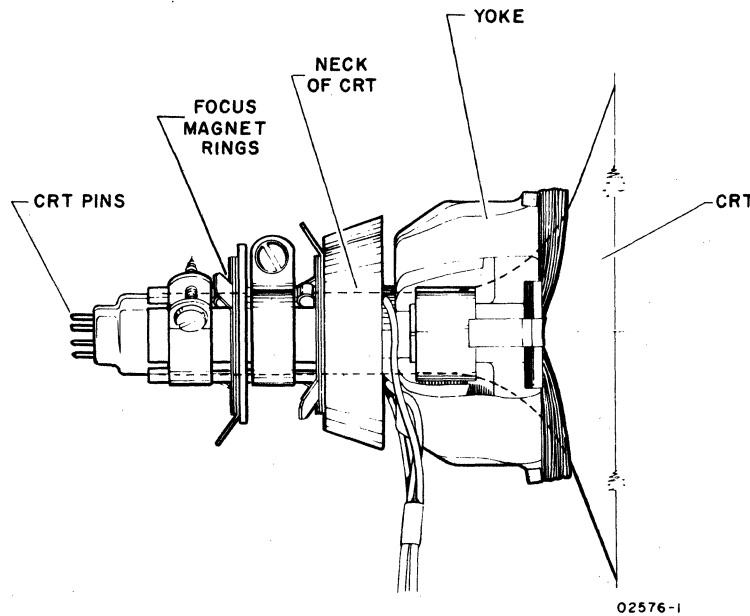

Figure CRT44. Adjusting Focus Ring Magnet Assembly
- 14) Adjust the focus magnet rings (figure CRT44) to reduce to a minimum any tails or halos visible on the characters. Especially those characters located in the corners of the display.